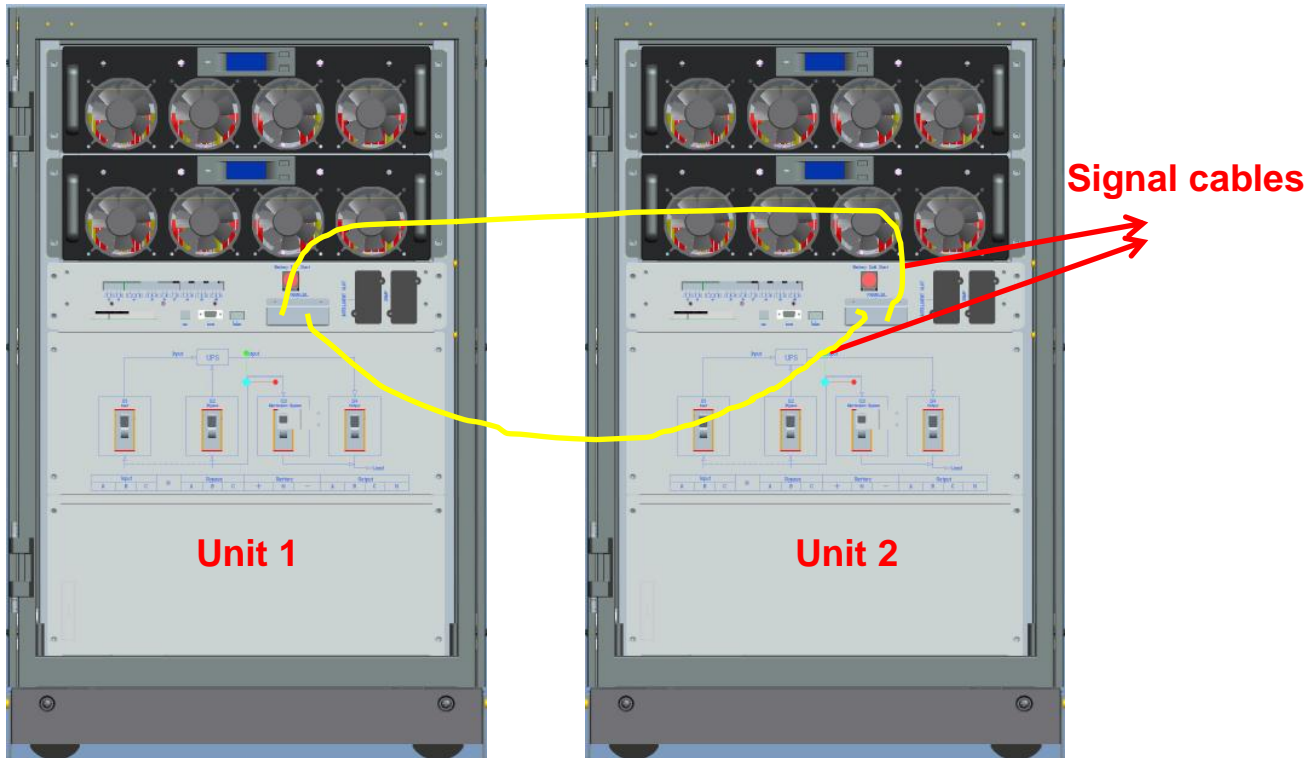

Figure 4 Parallel signal cables connection
- For 2 cabinets' parallel system, connect the parallel signal cables, and check the parallel board settings, as is shown in figure 4 and 5.